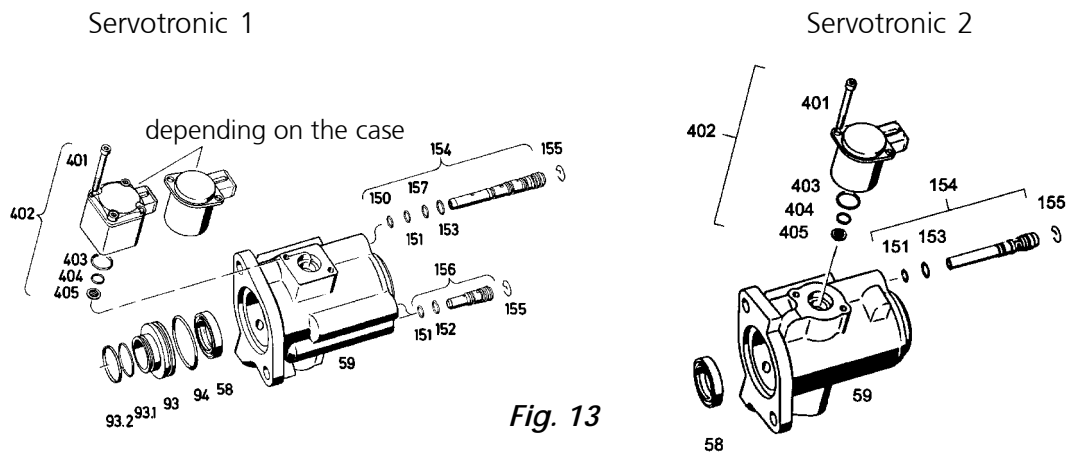

Fig. 13
Mark the installed position of the transducer (402) (*Fig. 13*).
7.1 Cornered transducer housing (402):
Unscrew the two diagonally opposed unsealed cap screws (401) (*Fig. 13*).
7.2 Round transducer housing (402):